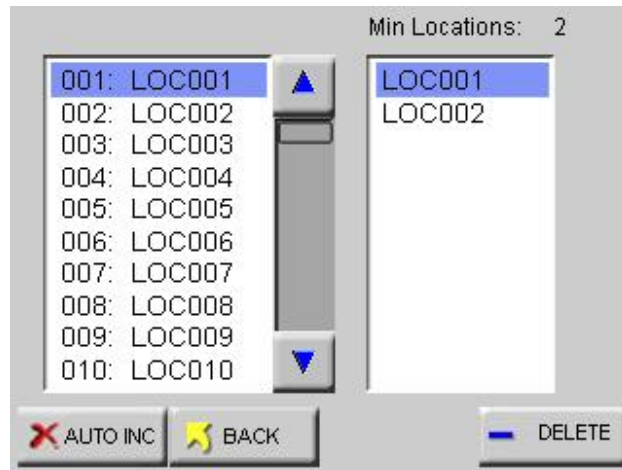

Figure 6-98 Reports Location Screen
- Select the LOC button to select, add or delete locations or enable Auto Inc as shown in Fig. 6-98.